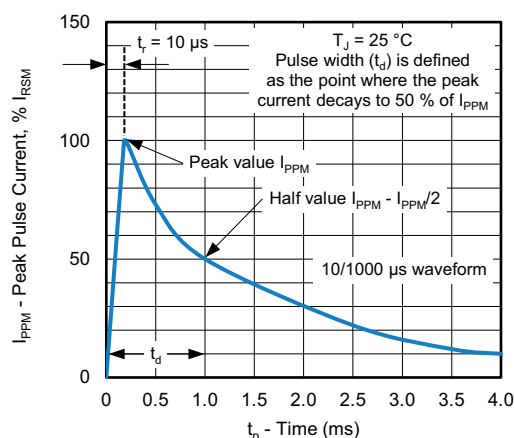
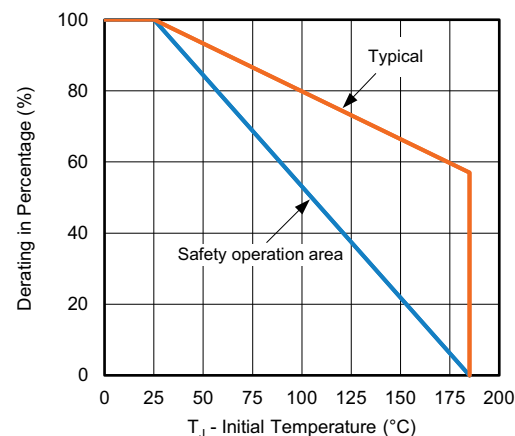

Fig. 3 - Pulse Waveform
Fig. 2 - Pulse Power or Current vs. Initial Junction Temperature
(1) Non-repetitive current pulse, per fig. 3 and derated above T_A = 25 °C per fig. 2
(2) Power dissipation mounted on infinite heat sink
(3) Power dissipation mounted on minimum recommended pad layout
(2) Surge current waveform per fig. 3 and derated per fig. 2
(3) To calculate V_{BR} vs. junction temperature, use the following formula: V_{BR} at $T_J = V_{BR}$ at $25\text{ }^{\circ}\text{C} \times (1 + \alpha T \times (T_J - 25))$
(4) All terms and symbols are consistent with ANSI/IEEE C62.35